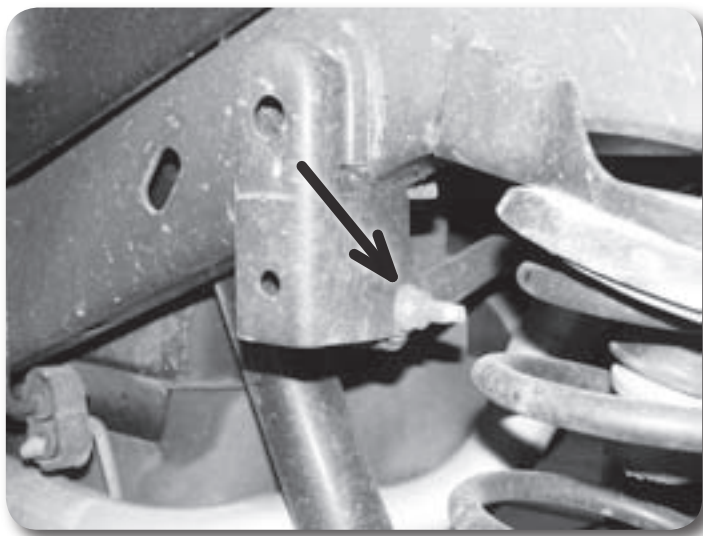

Figure 7
1. Disconnect the rear track bar from the passenger's side frame mount (Figure 7). Save hardware.